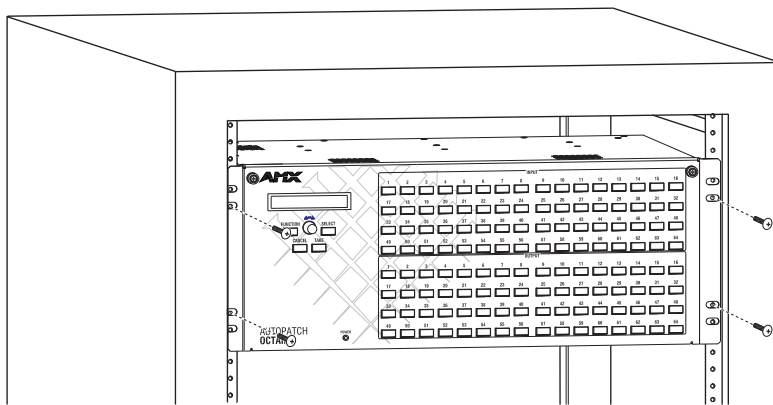

FIG. 9 Place enclosure(s) in rack and secure with screws
2. Place the enclosure in the rack and attach front-mounting screws to hold it firmly in place (FIG. 9); repeat for any additional enclosures.